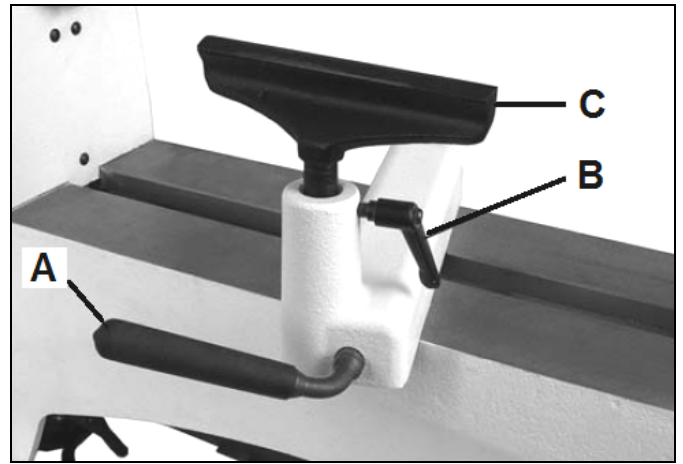

Fig 28
Position the tool rest (C, Fig 28) as close to the workpiece as possible. Tighten handle (A) to lock.
If adjustment is needed, slide the tailstock or toolrest to the edge of the bed and slightly turn the cam lock nut (B, Fig 28).